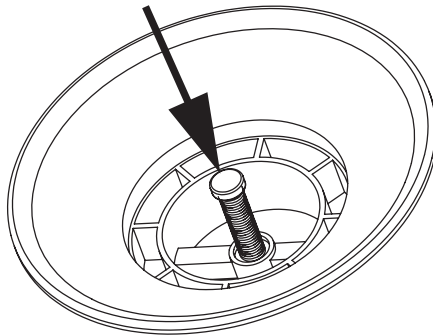

Figure 1. Inflate/Deflate of 2-way Military Valves
Your Advanced Elements kayak uses the following valve. The 2-way military valve has the function and durability of other military type valves and is compatible with most standard pumps. Figure 1 below details how to operate the valves.
3. Starting with Main Chamber 1, remove the cap from the valve and check to see if the stem in the center of the valve is up (sticking up out of the valve) or down (even with the inner rim of the valve). The stem of this valve must be in the up (inflate) position to inflate the kayak. If the valve is not in the inflate position, use your finger to push in and turn the stem counterclockwise a quarter turn and it will spring up into the inflate position. *SEE Figure 1 on PAGE 7.*
1. Remove the caps from both main chambers, push valve stems inward and rotate to the deflate position. (See Figure 1).